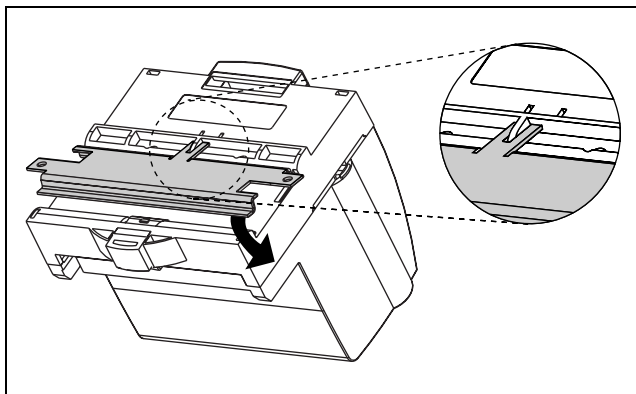

Figure 4. Installing the Panel Mount Accessory
2. Attach the panel mount accessory to the module, as shown in Figure 4.